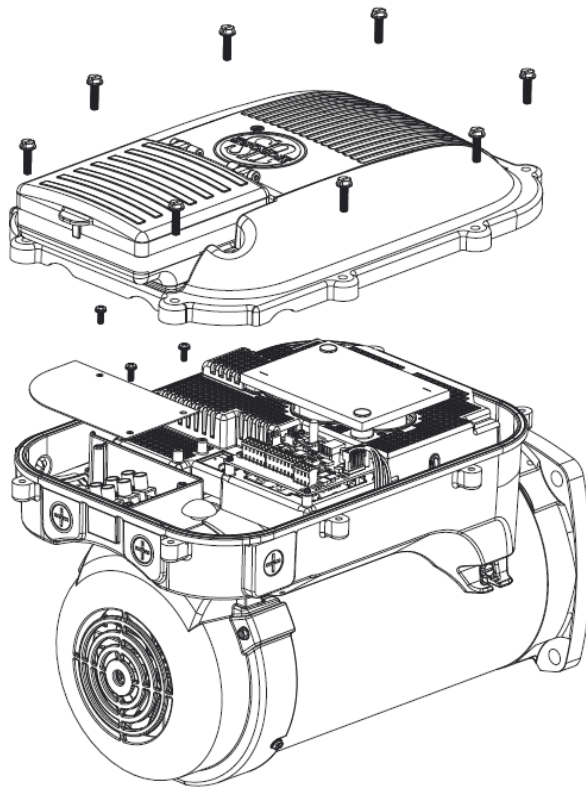

Figure 1
1. Remove the eight (8) #10-32 Hex Serrated Washer HD screws securing the cover. Set the cover aside, being careful not to disconnect the control unit cord from the UI interface board. (Refer to **Figure 1**.)
2. Remove the three (3) Phillips head screws securing the high voltage cover on the AC input terminal block and set the cover aside. (Refer to **Figure 1**.)